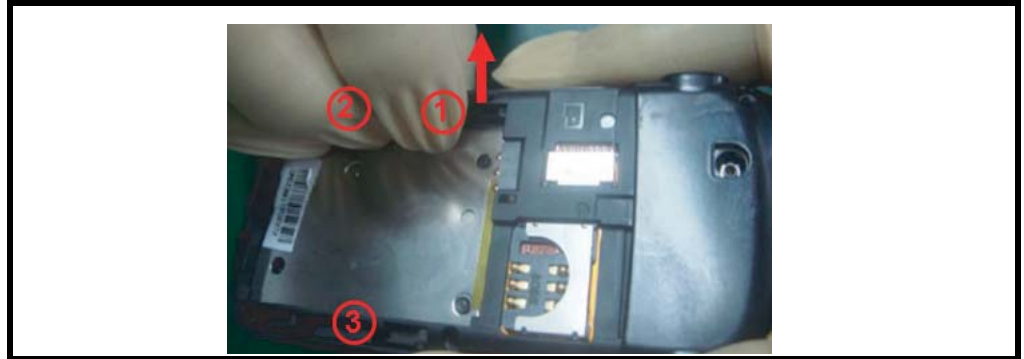

Figure 8. Removing the 3 hooks
3. Release the 3 hooks between Case D and Hinge which shown in Figure 8 by pushing the edge of Case D outward then pull up.